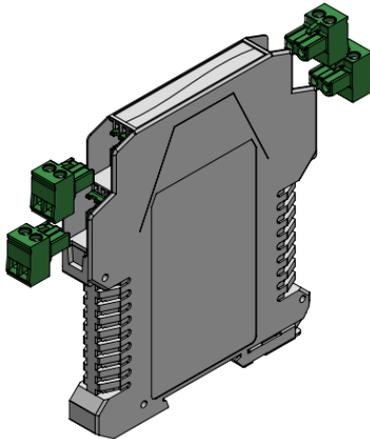

Figure 11 – Detachable connectors
**Figure 11** shows the electrical connections required. The TxRail-USB wiring for thermocouple, RTD, resistance, and voltage are done according figure below: